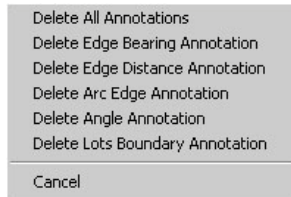

Figure 13-105. Popup Menu
4. Right-click and select the appropriate deletion command from the shortcut menu (Figure 13-105 on page 13-91).